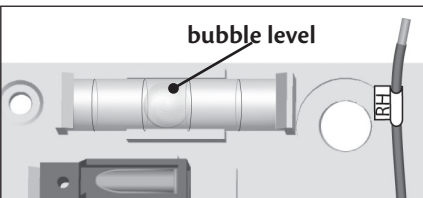
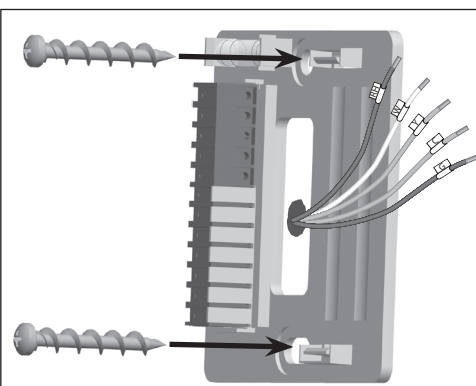

Figure 7.
Figure 8.
3. Using a Phillips Screwdriver, Partially install 1 screw into the top hole of the thermostat. Ensure the thermostat is level using the bubble level on the mounting plate Figure 7., then install the other screw. Tighten both screws until secure. Figure 8.
Note: Do not insert the wires into the holes in the top of the mounting block. The wires should be inserted into the front close to the hole in the mounting plate. See Figure 8.